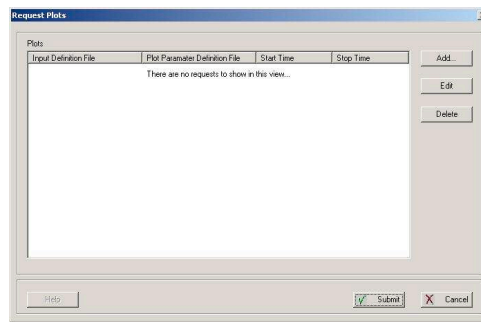

Figure 7: Request Plots Screen
- Choose "Request Plots" to activate the "Request Plots" screen (see Figure 7).
- Click the “Submit” button in the “Plot Requests” window (Figure 7) to begin generating the plot.